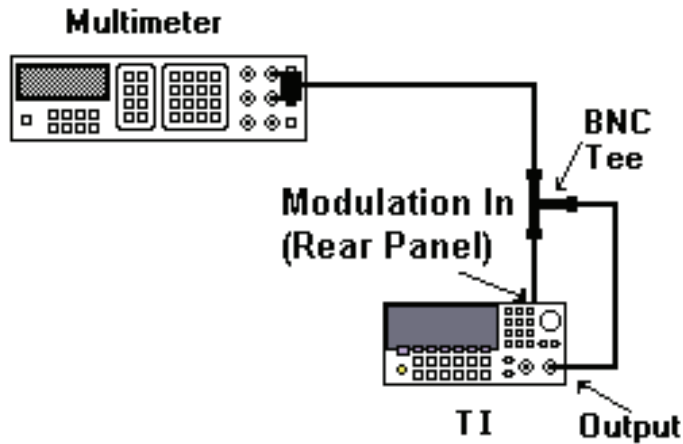

Figure 1. ADC adjustment hookup.
- (5) Disconnect frequency counter from TI and connect equipment as shown in figure 1 below.